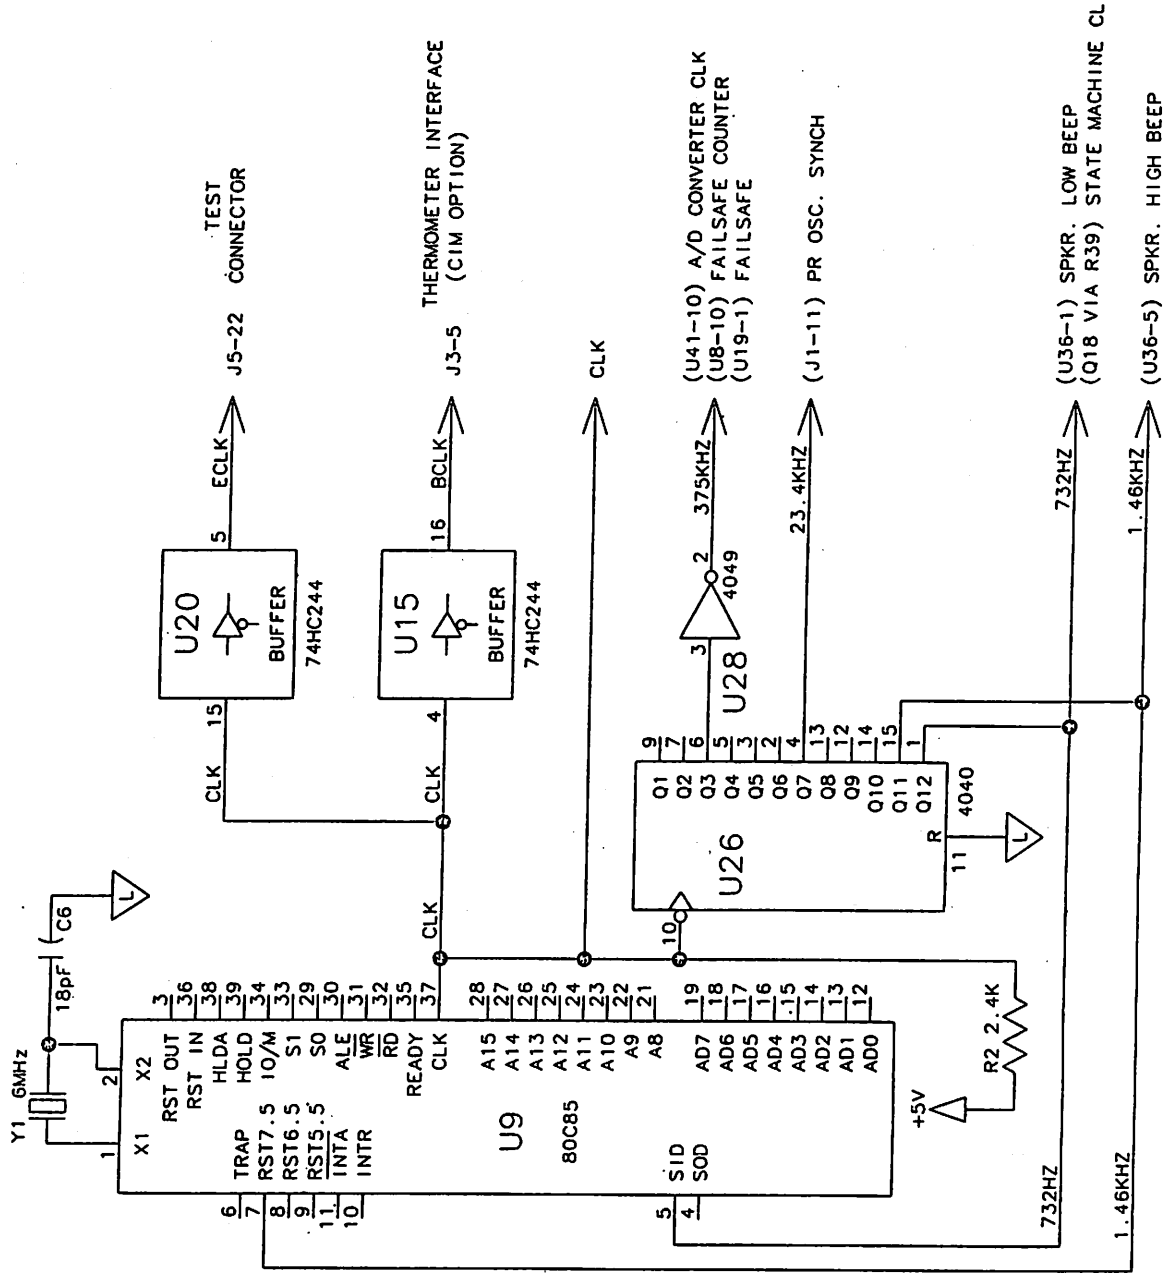

Figure 3-4. Clock and Clock Divider
3.2.7 Clock (figure 3-4)
3.2.8 Clock Divider (figure 3-4)